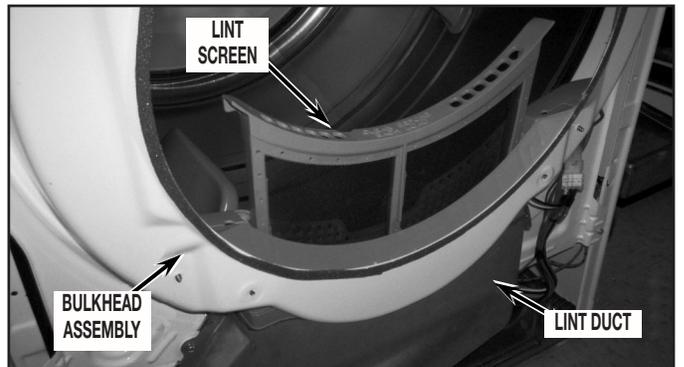

FIGURE 11
15. Remove the bulkhead assembly from dryer by first removing lint screen from dryer lint duct. See *Figure 11*.